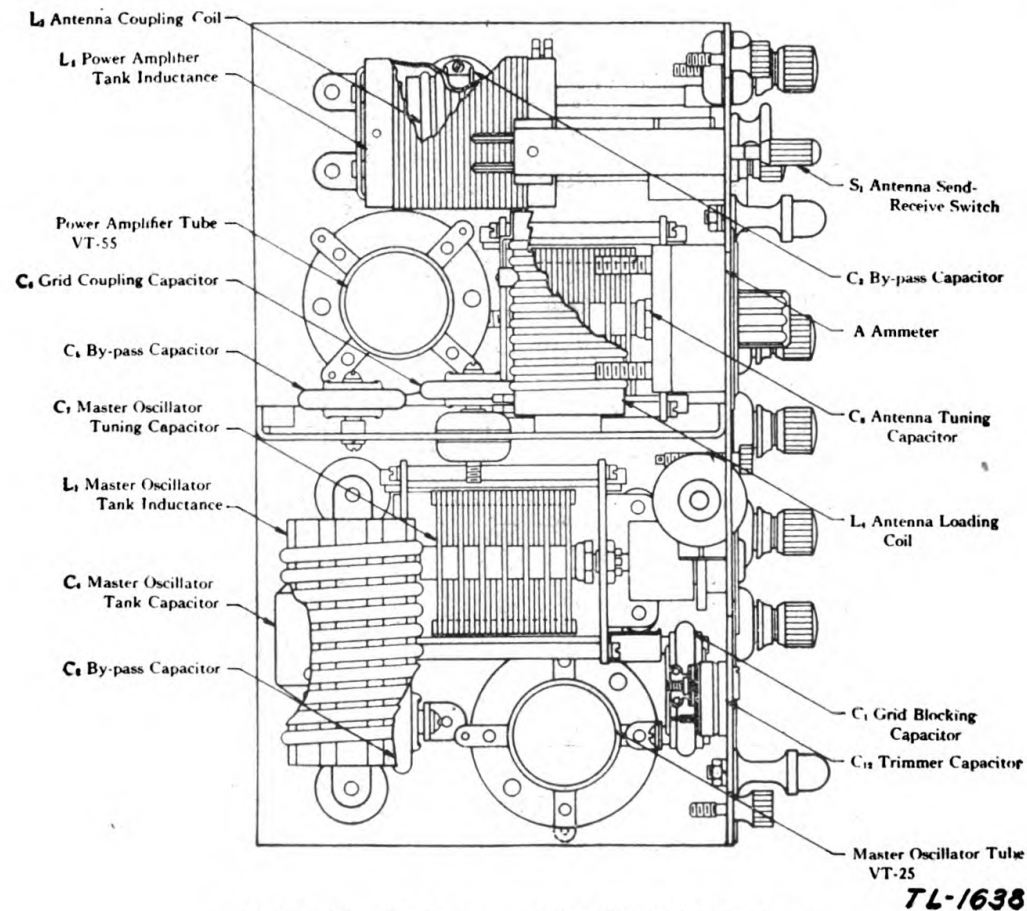

FIGURE 16.—Radio transmitter BC-187, top view.
18. Servicing.—The component units of the set should be inspected and cleaned periodically to determine that they are mechanically and electrically in good operating condition. Tubes should be tested with a test set or by interchanging with tubes known to be satisfactory. Use batteries the voltage of which is at least 80 percent of the rated voltage as indicated by a reliable voltmeter. Batteries indicating lower voltages decrease the operating efficiency considerably and are likely to be noisy. Check all connections regularly as loose and broken leads are the source of most operating troubles. For location of circuit elements see figures 16, 17, 19, 21, 28, and 29.